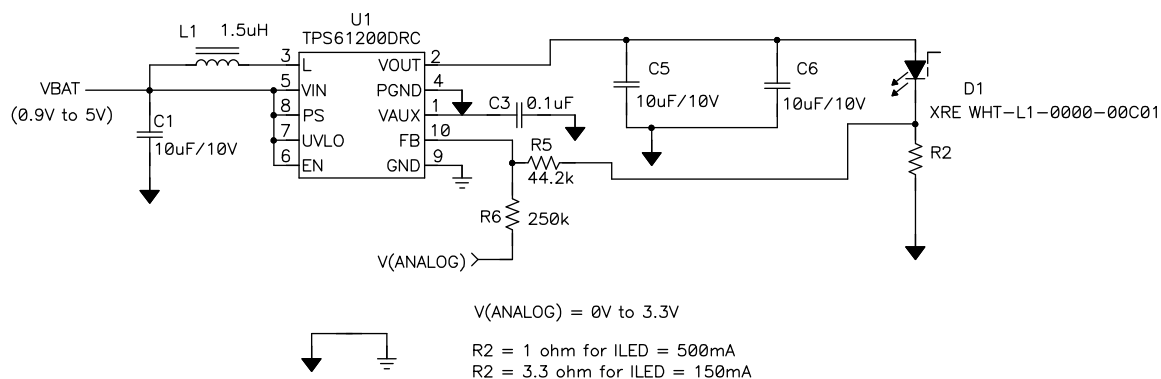
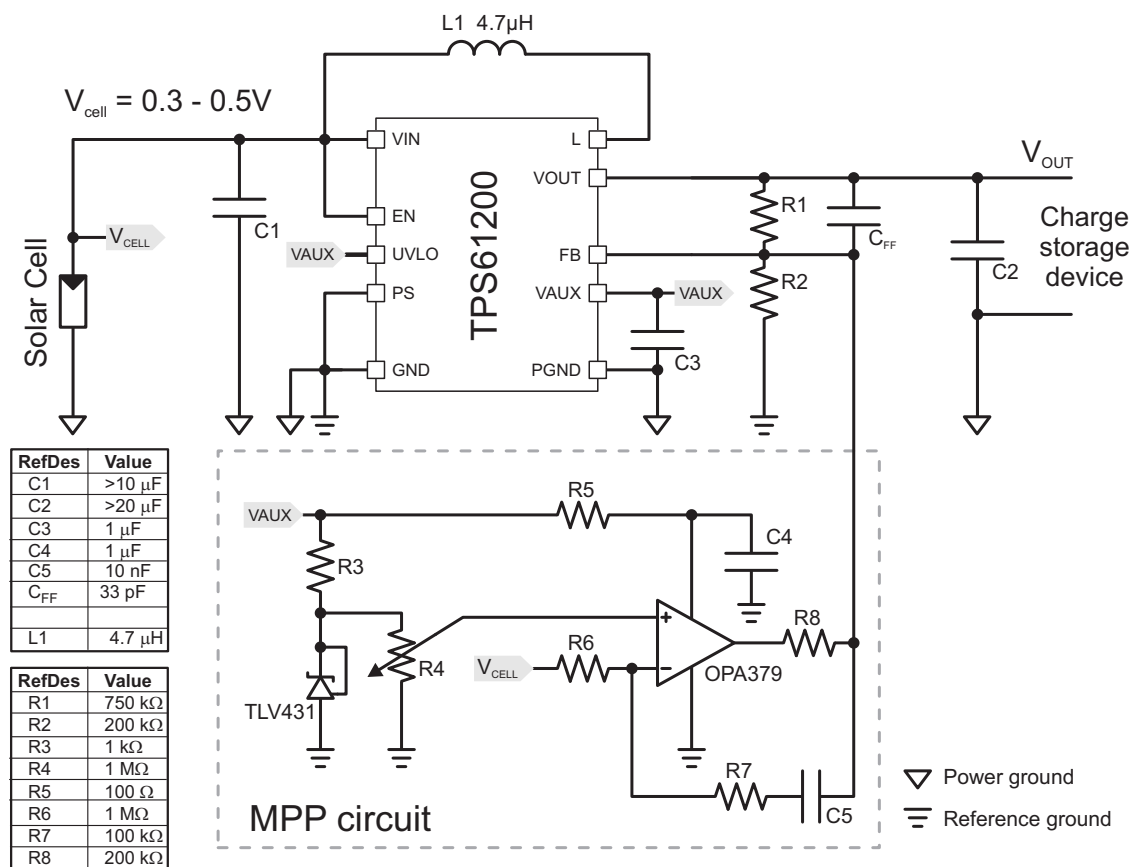
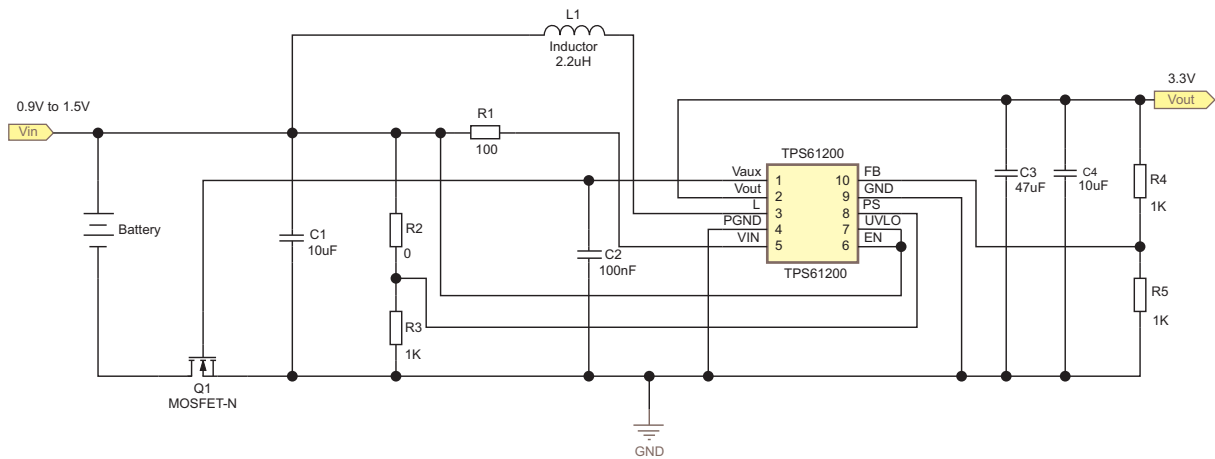

Figure 26. WLED Driver Circuit (See SLVA364)
Figure 27. Solar Cell Circuit (See SLVA345)
Figure 28. Reverse Battery Protection Circuit (See SLVA315)
- Added Figure 26, Figure 27, and Figure 28 18